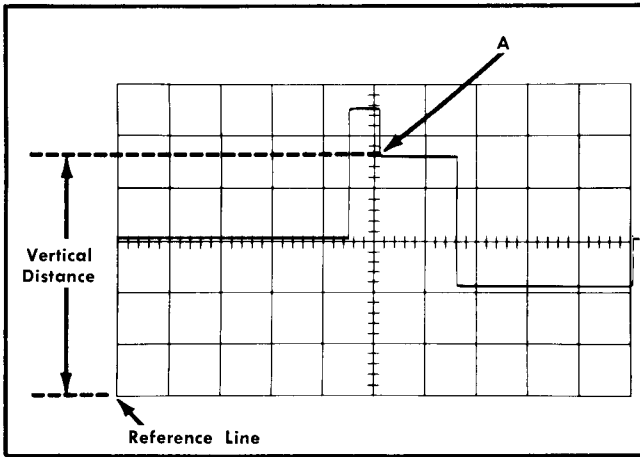

Fig. 2-15. Measuring instantaneous dc voltage with respect to a reference.
9. Measure the distance in divisions between the reference line and the point on the waveform at which the dc level is to be measured. For example, in Fig. 2-15 the measurement is made between the reference line and point A.
Example. Assume that the vertical distance measured is 4.6 divisions (see Fig. 2-15), the waveform is above the reference line, using a $10\times$ attenuator probe and a VOLTS/DIV setting of 2.